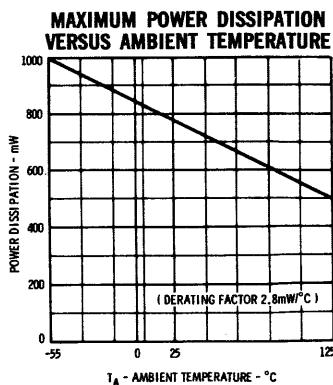

FIGURE 4
- (1) Derating factor as shown in Fig. 4 is 2.8 mW/ $^\circ C$.